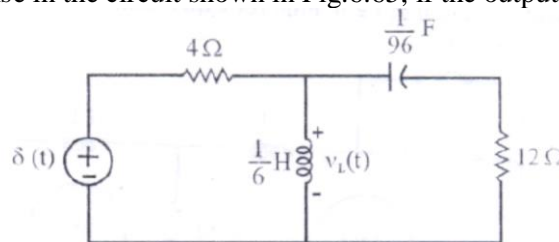

Fig.6.65
7. Find the impulse response in the circuit shown in Fig.6.65, if the output is $V_L(t)$.